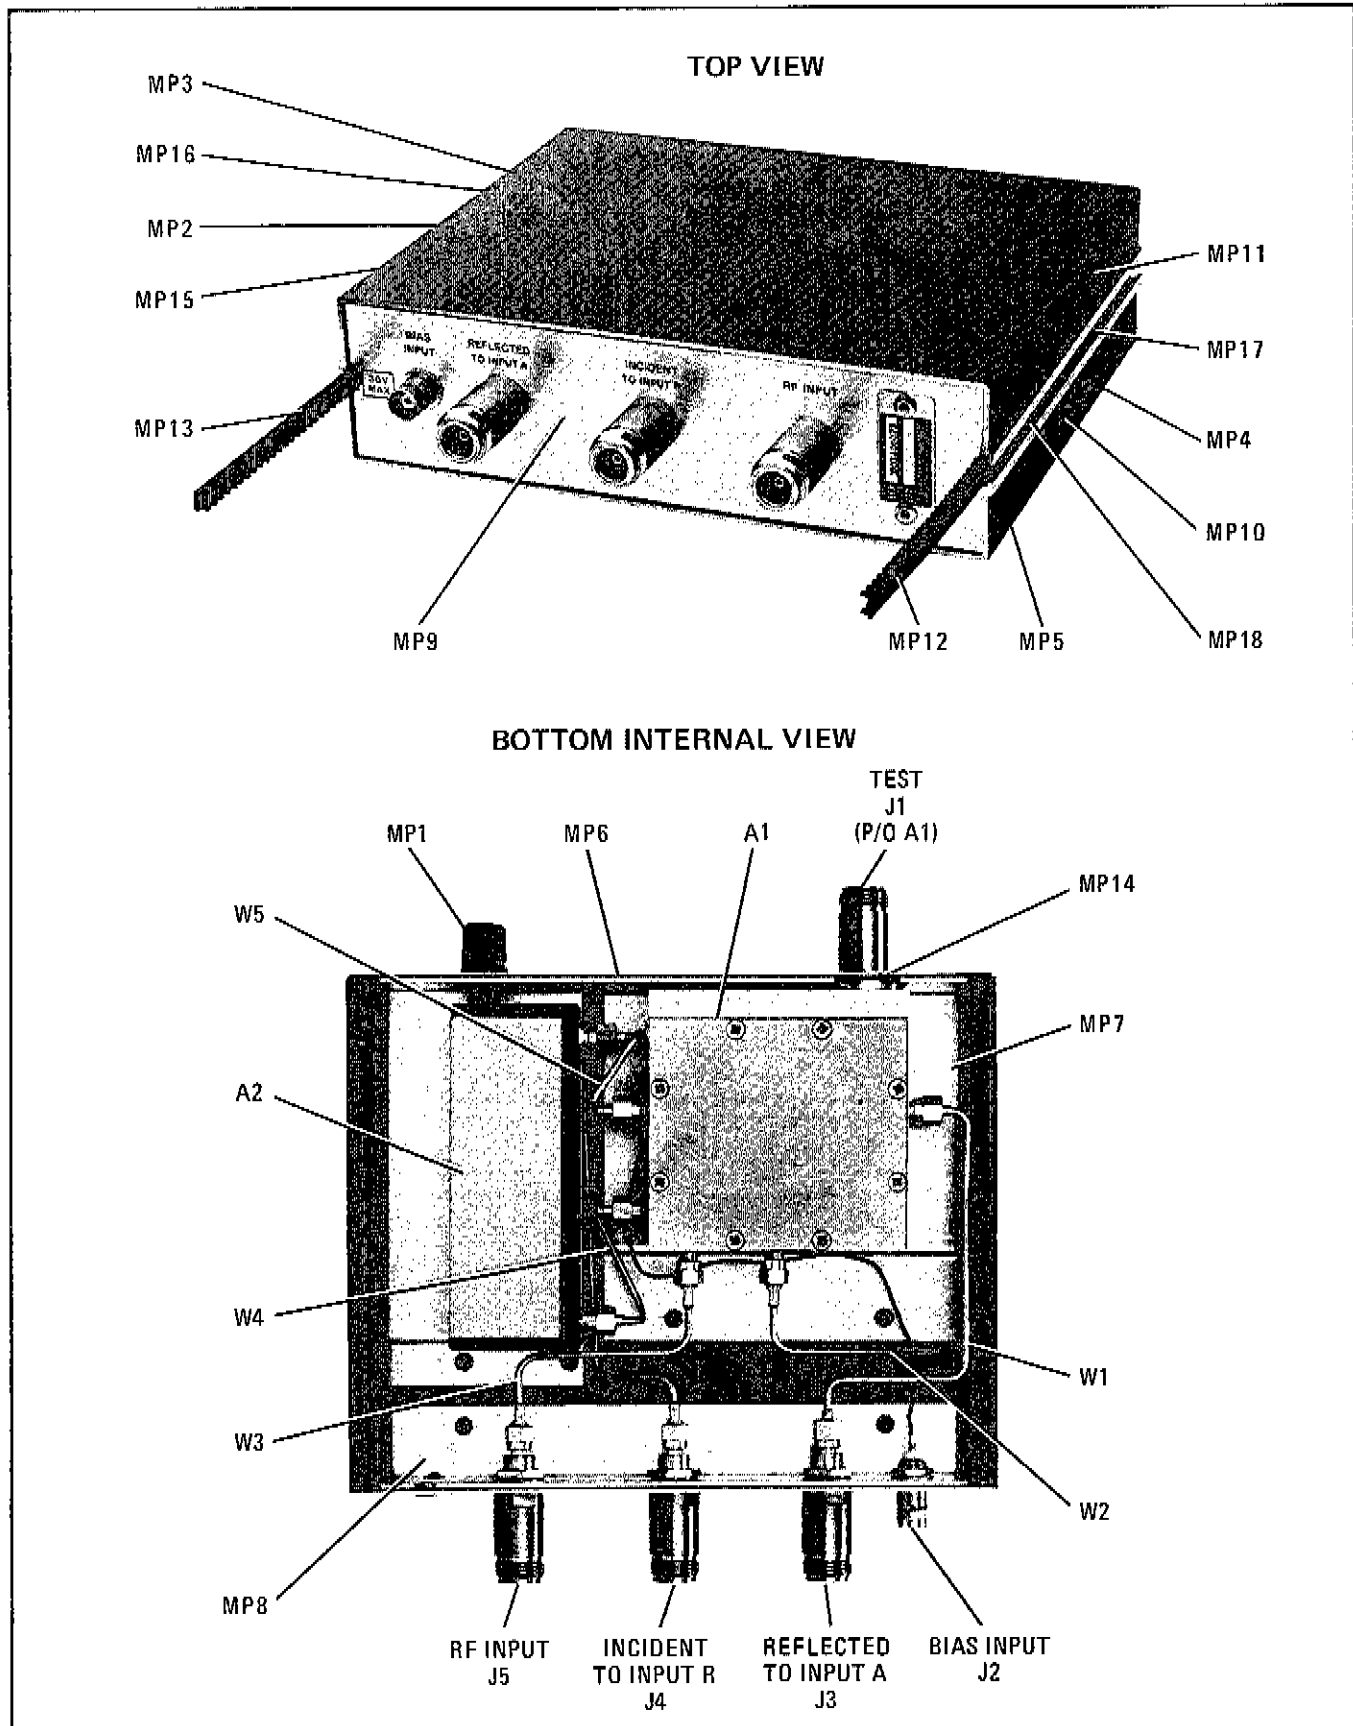

Figure 21. Major Assemblies and Parts Locations
- d. Remove cables W1, W2, and W3 from Directional Bridge A1. (See Figure 21.) Use 5/16 open-end wrench to loosen cable connectors.
- h. Remove cables W4 and W5 from Directional Bridge A1 and Step Attenuator A2. (See Figure 21.)